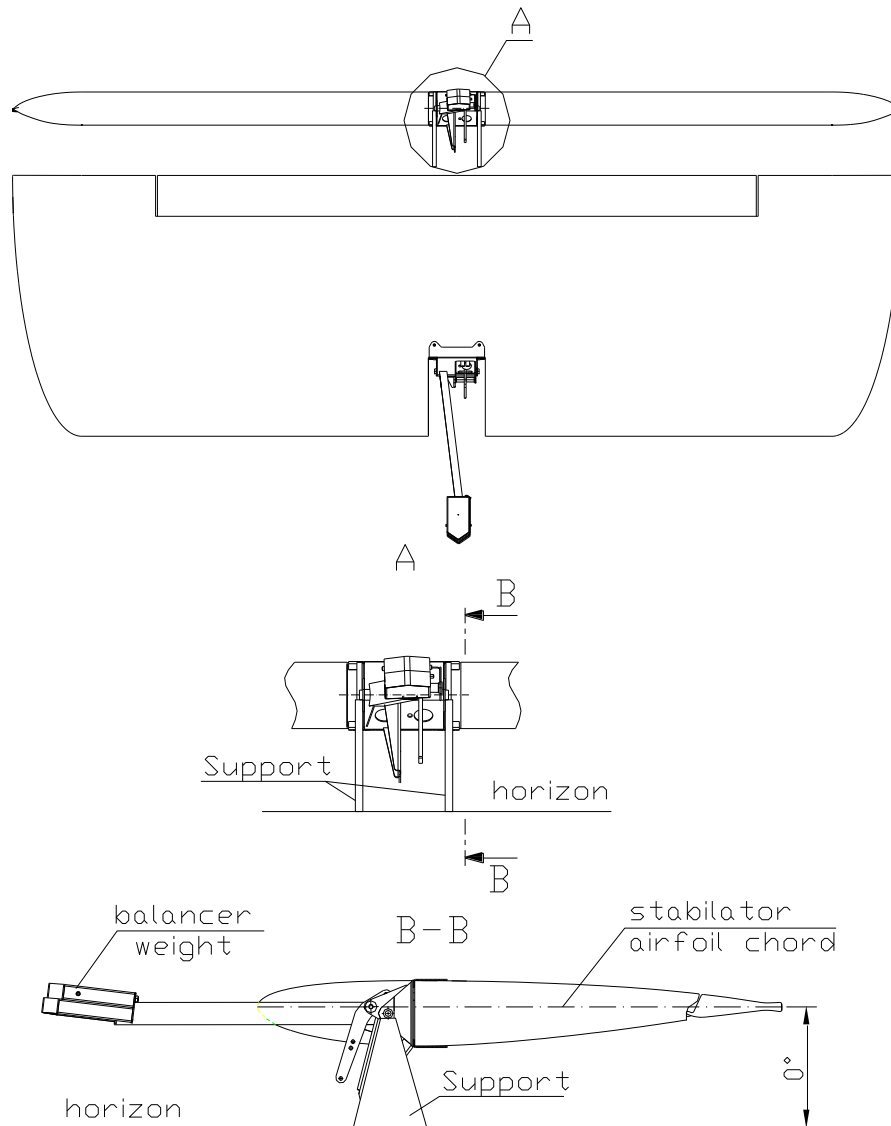

Fig. 4-29
2. Set the assembled Stabilator on the supports as it shown on Fig. 4-29. Hold the Stabilator in position when the Stabilator airfoil chord is parallel to the horizon. Then loosen it; the Stabilator